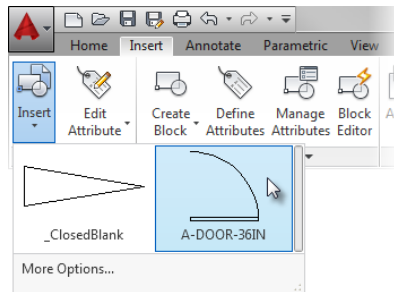

FIGURE 7.9: Selecting a block from the Block gallery
2. Click the Insert button found on the Insert tab > Block panel, and select the A-DOOR-36IN (A-DOOR-0915) block from the Block gallery shown in Figure 7.9.